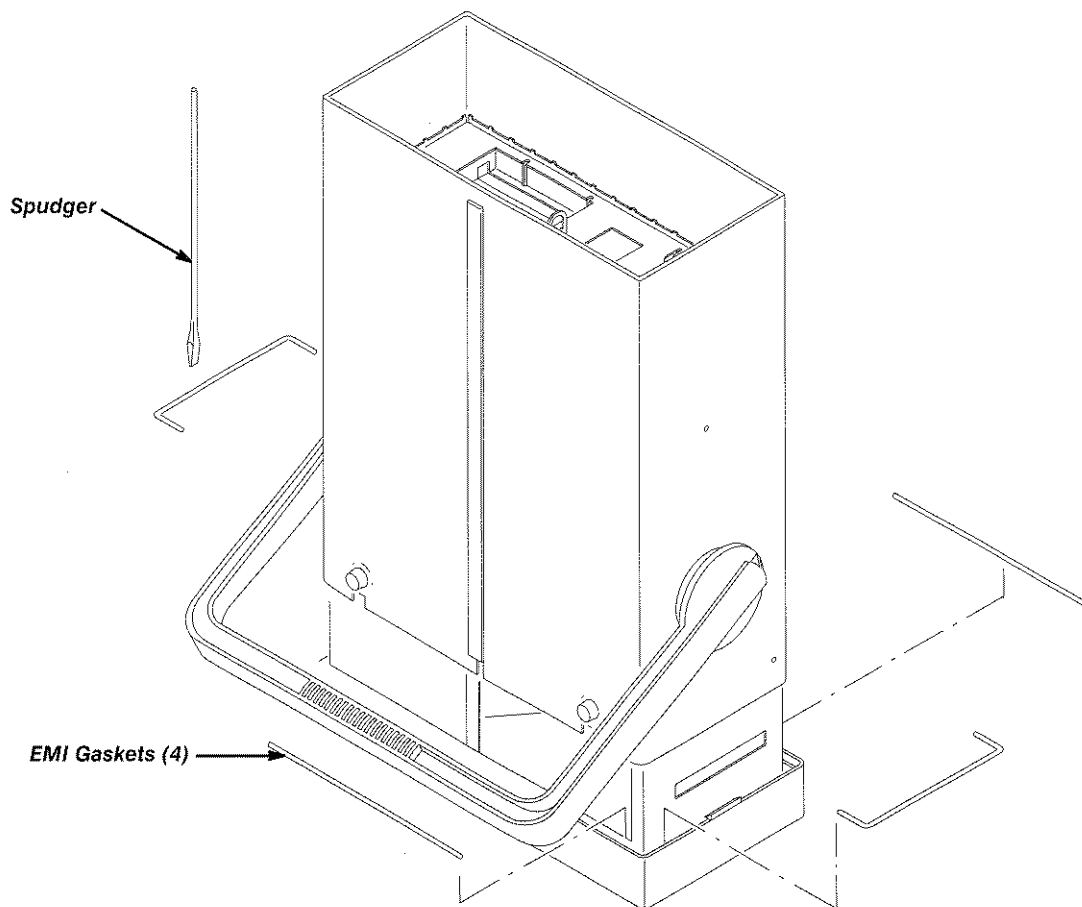

Figure 8-9: EMI Gasket Installation
5. Using a flat-bladed spudger, push the EMI gasket until it is firmly seated at the bottom of the groove (see Figure 8-9). It should not overlap either flex lock.